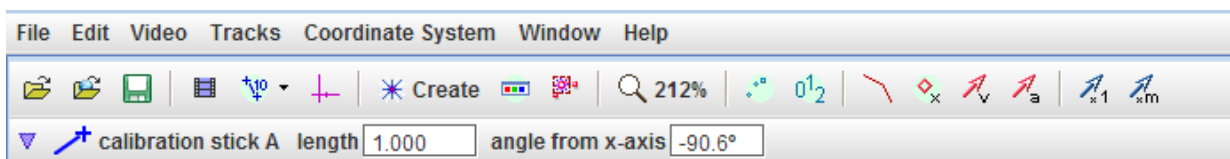

Figure 3-4. Length and angle of the calibration stick. Notice that the length is set to 1.000, and that the angle is very close to $\pm 90^\circ$.
- If you’ve done everything correctly, the angle from axis should be very close to $\pm 90^\circ$. See Figure 3-4.